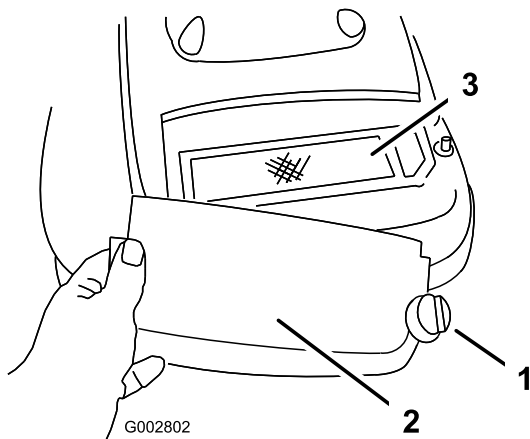

Figure 23
3. Remove the screw that secures the air cleaner cover (Figure 23).
4. Remove the cover and clean it thoroughly (Figure 23).